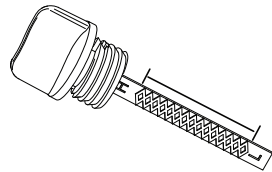

Figure 2-9. Safe Operating Range
6. See Figure 2-9. Remove dipstick and verify oil level is within safe operating range.